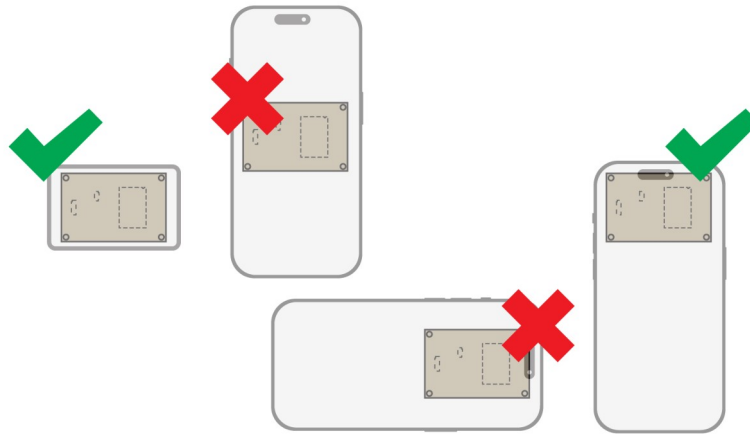
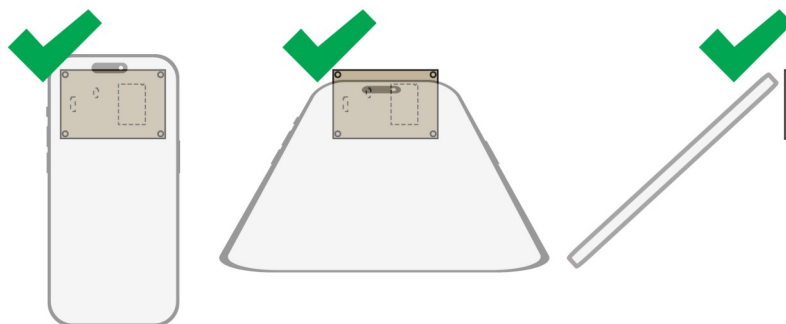

Figure 11
Figure 12
- NFC smartphones generally have a preferred axis that is different from that of standard cards (*Figure 11*), and many are now engineered to communicate more effectively when held at an angle to the antenna (*Figure 12*). Smaller NFC tags or RFID labels usually achieve better performance when positioned near the coil's